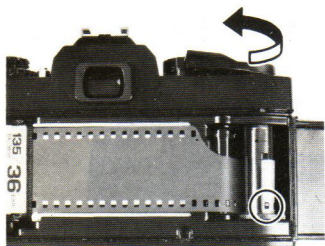
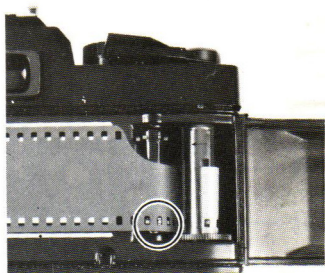
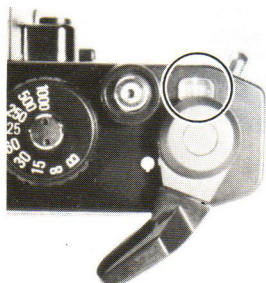

Fig. 7
Fig. 8
Fig. 9
6. Rotate Film Take-up Spool (32) by advancing Film Advance Lever (11) to take up any slack in the film and check to see that the film tip is firmly hooked onto Film Take-up Spool (32) (Fig. 7) and that sprocket holes on the film are fully engaged on Sprocket Teeth (22) (Fig. 8).
7. Close and press Back Cover (33) firmly until it snaps shut.
8. Advance Film Advance Lever (11) two or three times, after depressing Shutter Release Button (9) each time, until the number "1" is opposite the index line in Exposure Counter (12) (Fig. 9). Because the first portions of the film can not be used for picture taking as they have already been exposed to light and two or three blank exposures should be made before taking your first picture. Now it is ready for your first picture.